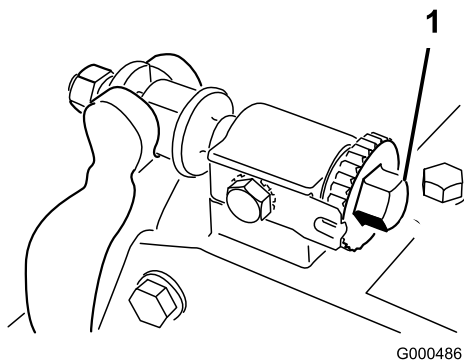
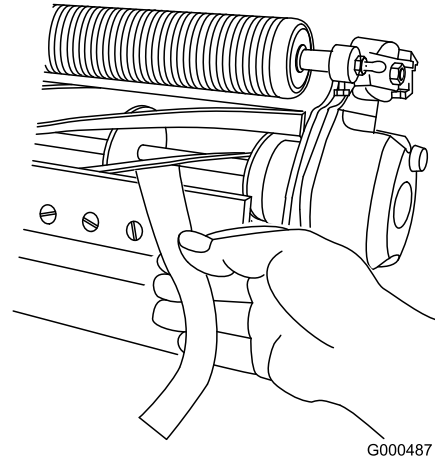

Figure 51
Figure 52
2. Make sure reel contact is removed by turning bedbar adjusting screws counterclockwise (Figure 51).
4. At one end of reel, insert a long strip of newspaper between reel and bedknife (Figure 52). While slowly rotating reel forward, turn bedbar adjusting screw clockwise (on same end of reel) (Figure 51), one click
6. After adjustment is accomplished, check to see if reel can pinch paper when inserted from the front and cut paper when inserted at a right angle to the bedknife (Figure 52). It should be possible to cut paper with minimum contact between the bedknife and the reel blades. Should excessive reel drag be evident it will be either necessary to backlap or regrind the cutting unit to achieve the sharp edges needed for precision cutting (see Toro reel sharpening manual).